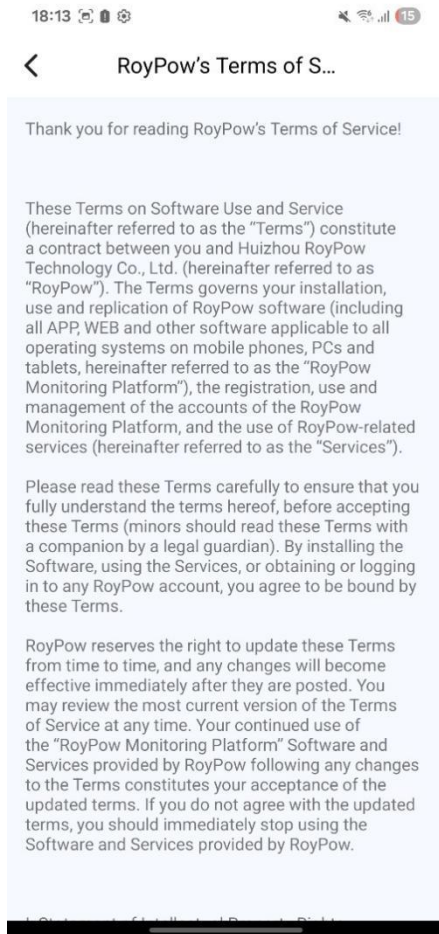

Fig. 5.2.2 Service Agreement
1. Users can access the "Service Agreement" by clicking on "**About**" and then selecting "Service Agreement" at the bottom. This allows users to view the services provided by this software. as shown in Fig. 5.2.2.